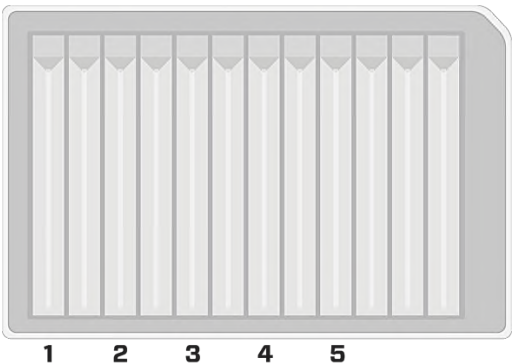

Figure 2. Reservoir column labels
1. Label a 12-channel reservoir as shown in **Figure 2**, skipping every other column to prevent purification buffer cross-contamination.